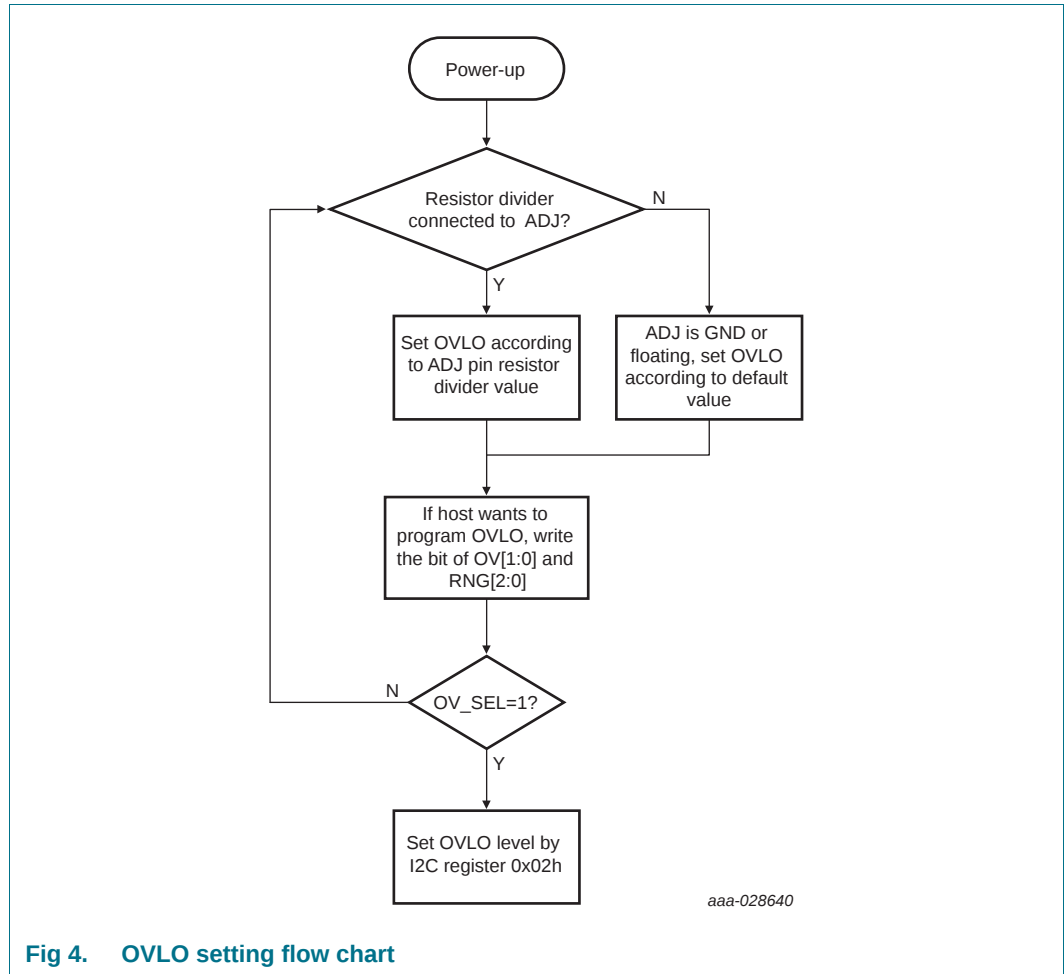

Fig 4. OVLO setting flow chart
- After power up, the OVLO threshold can be adjusted by system through the I²C register 0x05h according to the flow chart in Figure 4.